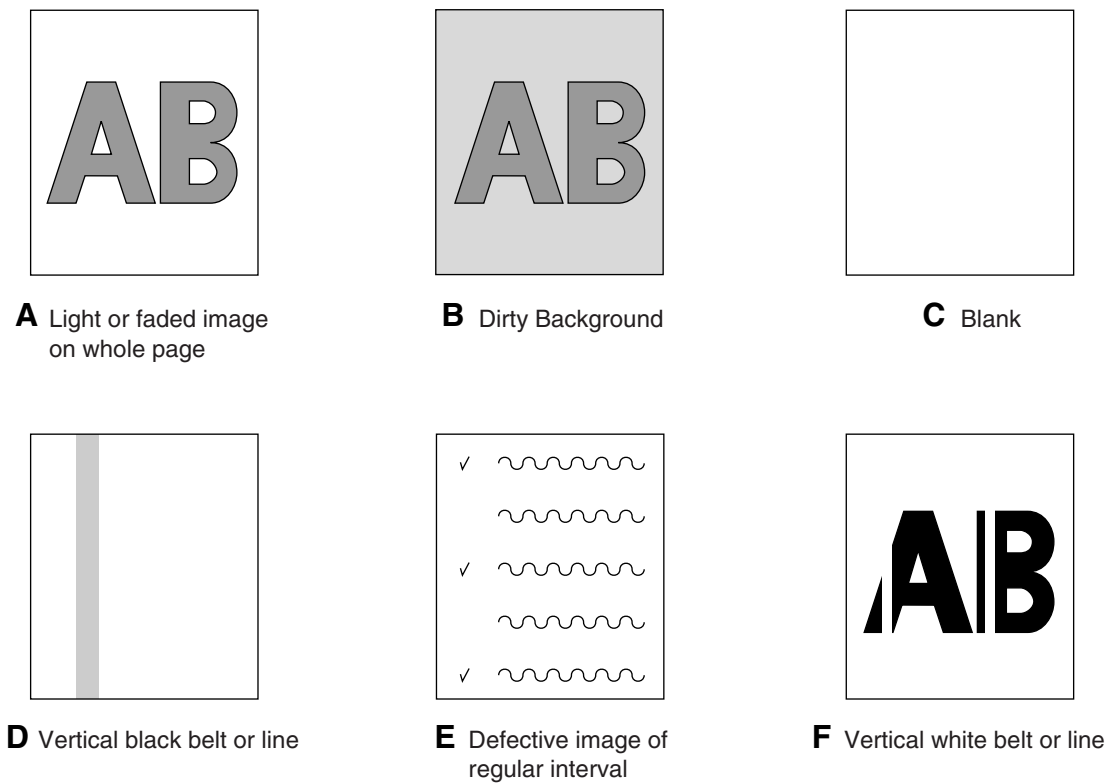

Figure 8.2
8.5.3.(1) Color is totally pale (Fig.8.2 A)
8.5.3.(2) Background is dirty (Fig.8.2 B)
8.5.3.(3) Blank Print (Fig.8.2 C)
(4-1) Thin vertical lines (with color) (See Fig.8.2 D)
(4-2) Thin vertical lines (without color) (See Fig.8.2 F)
8.5.3.(5) Cyclic Print Trouble (Refer to Fig.8.2 E)